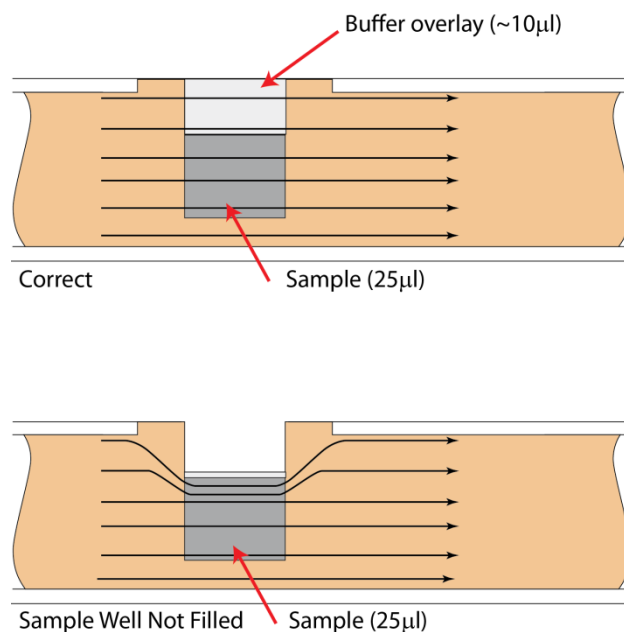

Figure 11.1. An illustration of the electrophoretic effect on a DNA sample when a sample well is not completely filled.
Proper sample loading is critical for best performance of PippinHT cassettes. For maximum reproducibility and accuracy, the sample should travel through the central section of the gel column, and should be bounded on all four sides by uniformly conductive media – either gel or electrophoresis buffer. The goal of the loading procedure is to produce this geometry in the sample loading well, as illustrated in the top section of **figure 11.1**. Properly prepared samples will be 25 μl in total volume consisting of 20 μl of DNA mixed with 5 μl of loading solution/internal standard mix. The loading solution contains concentrated Ficoll as a densifying agent, and therefore the samples will sink and form a high density layer beneath the electrophoresis buffer when pipetted slowly into the sample wells. If there is insufficient conductive buffer over the sample, the electrophoretic forces lines will curve upward as the sample exits the well (see **figure 11.1**, bottom section), and the sample will be drawn to the top of the cassette where it can travel out of the gel into the gap between the gel column and the plastic top of the channel. Sample moving in this gap will travel at a different rate than the sample inside the gel column, and will lead to elution of undesired size fractions in the eluted material. In such cases, the contaminating DNA will usually (but not always) be higher in molecular weight than the selected DNA.
2. **Remove 30µl of buffer the samples wells.** Take care not pierce the agarose with the pipette tip(s). There is gel on all sides and bottom of the sample well. In addition, there is an agarose “chimney” surrounding the top of the sample well that protrudes up through the cassette cover (see **Figure 11.1**). When removing buffer, some users find it useful to immerse the pipette tip just below the surface of the buffer and follow the liquid level down with the tip as the buffer is removed. When buffer removal is completed, there will be ~10ul of buffer left in the well.